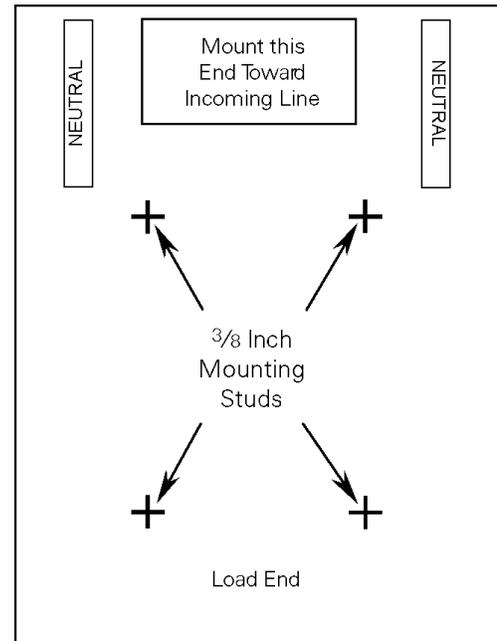

Figure 4. Panelboard mounting studs.
3. Locate the panel mounting studs that align with the panelboard interior mounting holes, as shown in Figure 4. The line end of the panel must be installed toward the line end of the box.